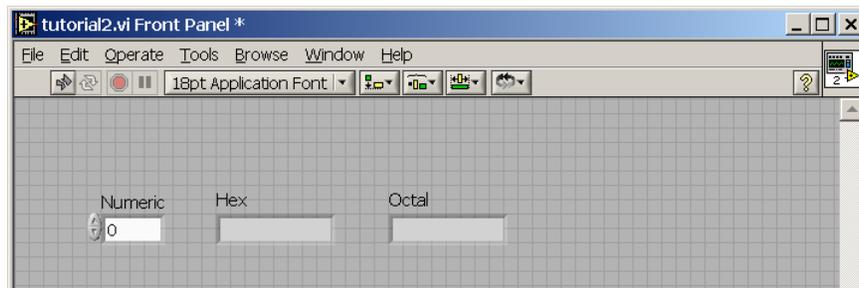

Figure 1
2. After inserting the numeric control we will insert two string indicators that will be used to display our results. Once you place both the numeric control and string indicators, you should have a VI similar to that shown in Figure 1.